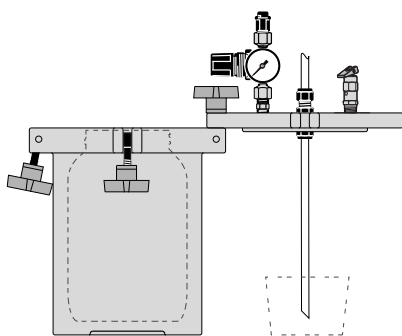

Figure 2.
2. Actuate the air relief valve ❷. Hold the relief valve open until any hissing sounds end.
3. Confirm that the indicated gauge pressure is zero ❸. If the gauge reads zero, slowly release the cover clamps ❹ and remove the cover as shown in Figure 2.
3. Remove the tank cover and temporarily store it by reattaching one of the clamps (Figure 2). When refilling the tank, use a cup (not included) to catch any excess material that drips from the feed tube.